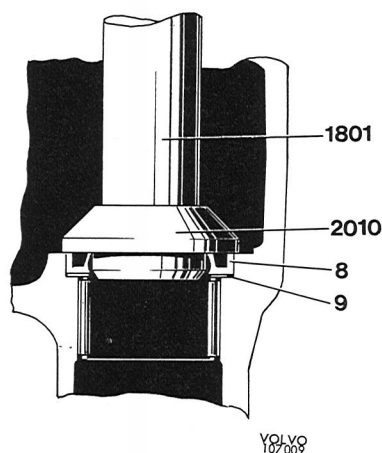

Fig. 6-98. Installing sealing ring
- 9) Tighten up the housing (4) with the neck facing downwards. Install the washer (8) in the housing. Install the seal (9) with the sealing lip facing upwards. Use tools 2010 and 1801, see Fig. 6-98.
10. Oil the O-ring (28) and install it together with the other O-rings in position in the cover with